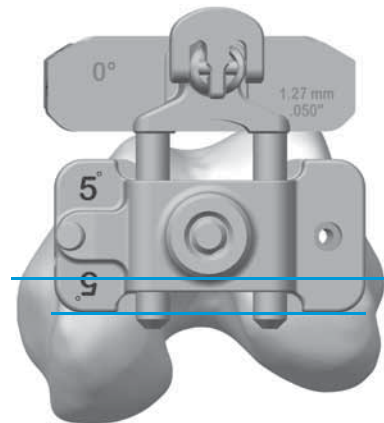

Fig. 110
- Set the orientation of the Fixed Valgus Guide by placing it against the most prominent distal condyle and rotating it about the IM Rod so that it is aligned with the epicondylar axis (Fig. 110).